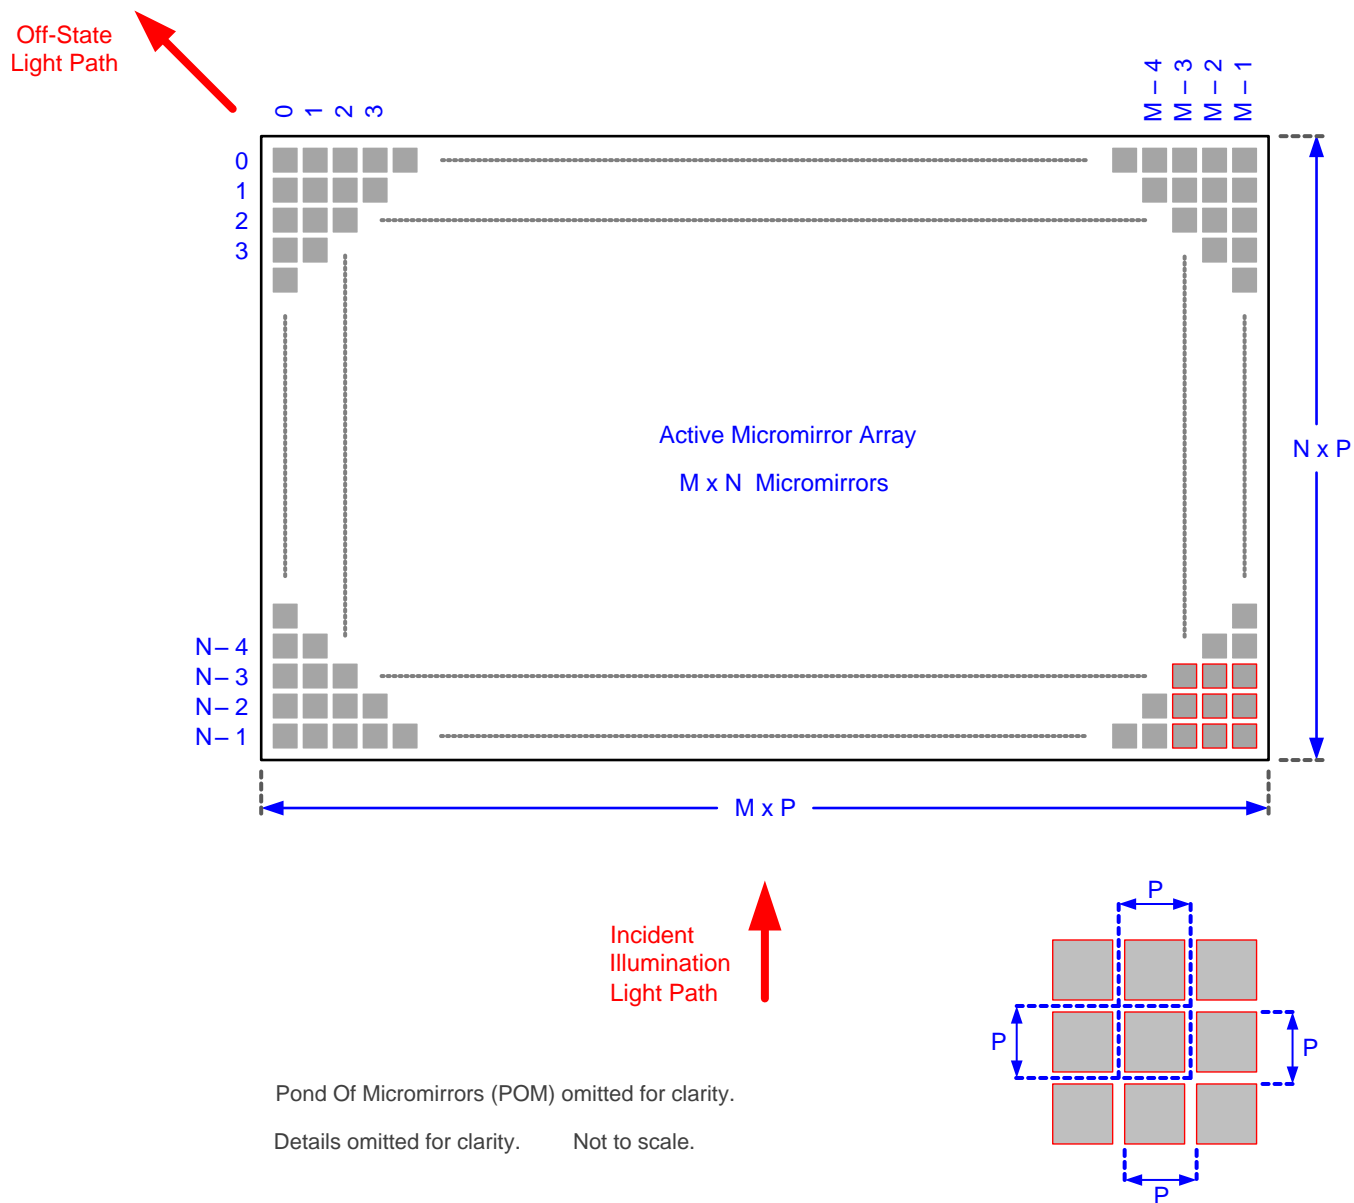

Figure 8. Micromirror Array Physical Characteristics
(1) See Figure 8.
(2) The structure and qualities of the border around the active array includes a band of partially functional micromirrors referred to as the pond of micromirrors (POM). These micromirrors are structurally and/or electrically prevented from tilting toward the bright or ON state but still require an electrical bias to tilt toward the OFF state.